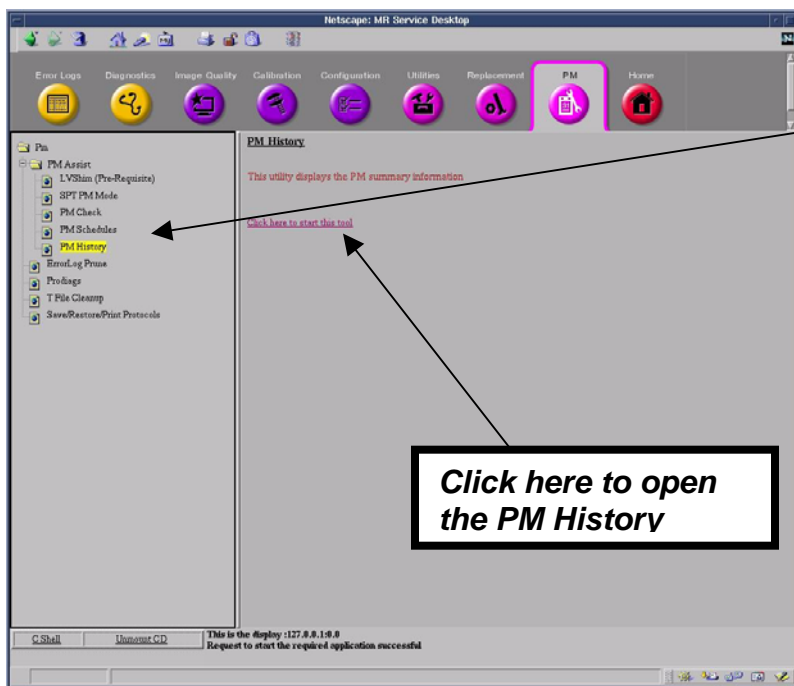
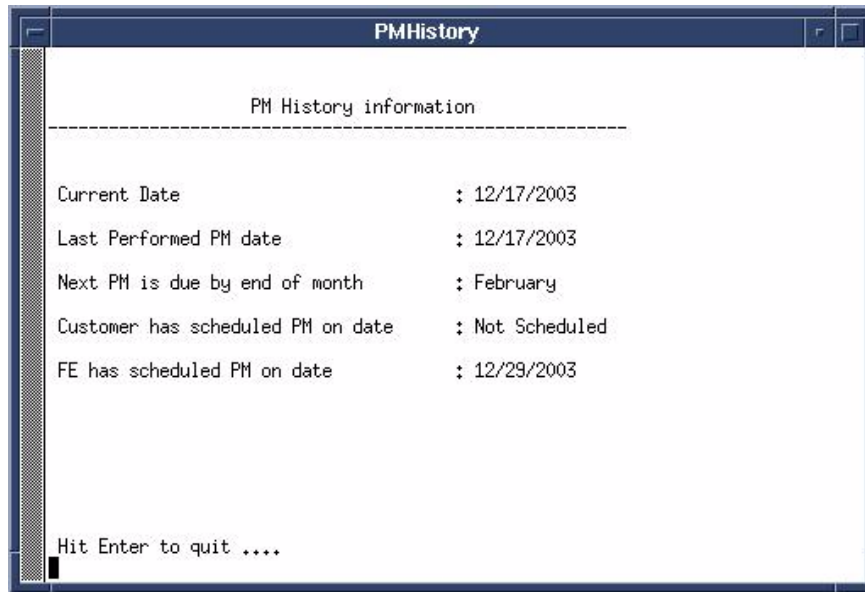

Figure 26
Figure 27
1. Click on PM History in the expanded PM folder. **Figure 26 & 26a**. The right side of the screen will provide more details about PM History and a link to start the PM History tool.
2. Click on the Link “Click Here To Start This Tool” **Figure 26** to start the tool and open the PM History tool **Figure 27**.
3. The PM History will display the following information. **Also See Figure 27**